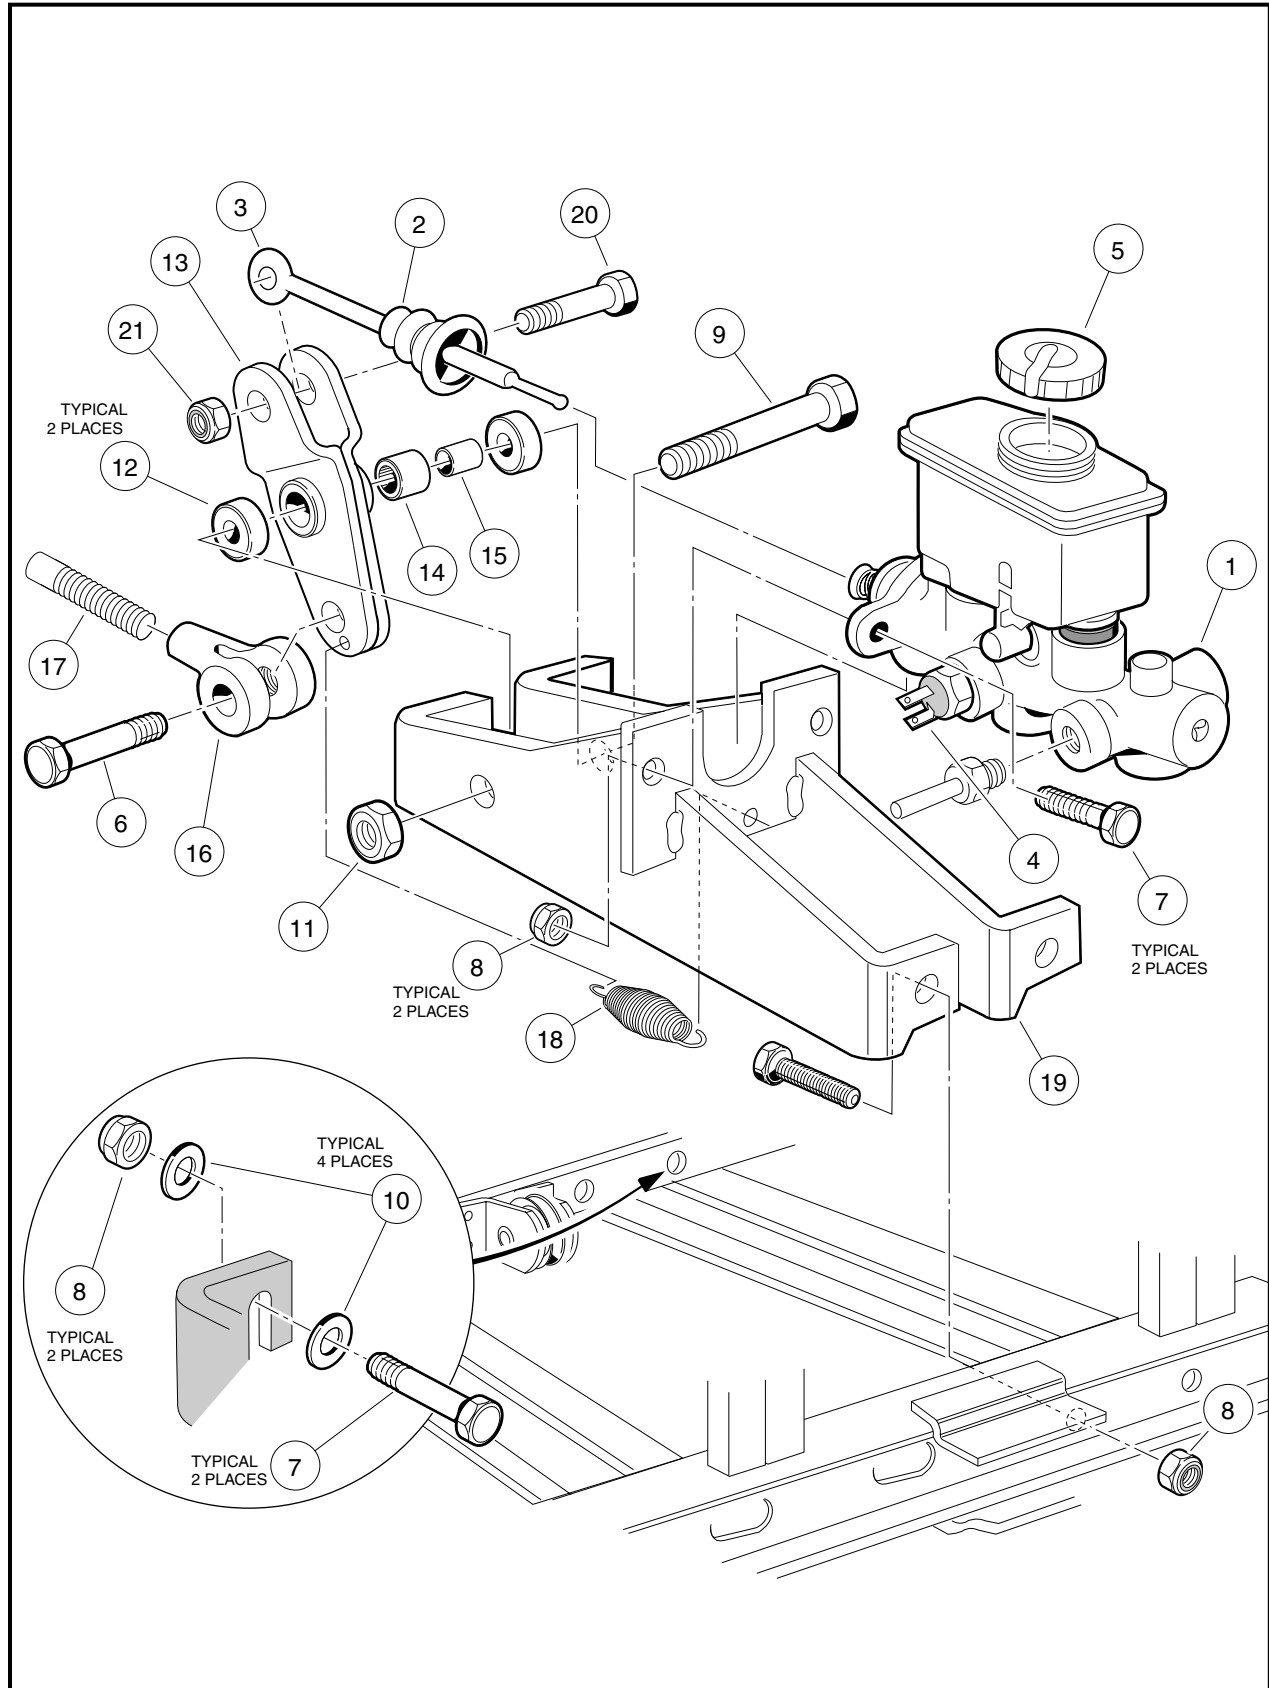

Figure 6a-23 Master Cylinder
5. Attach the two wires to the master cylinder pressure switch (no particular orientation) (4) (**Figure 6a-23, Page 6a-34**).
4. Remove each wheel and gently adjust the clearance between the brake shoes and brake drum by turning each of the two adjusters on the brake cluster as shown (**Figure 6a-16, Page 6a-19**). Use a torque wrench and a Torx #T-27 driver or hydraulic brake adjuster (CCI P/N 102169401). **See following CAUTION.**
- **Do not apply more than 65 in-lb (7.3 N-m) of torque to any of the adjuster bolts. Overtightening the adjuster bolts could result in damage to the brake cluster components or the separation of the bolt (4) from the adjuster (3) (Figure 6a-3, Page 6a-4 or Figure 6a-21, Page 6a-25).**
- **Front brakes only:** Connect the two hose fittings from a vacuum type brake bleeder to the brake bleeder valves on the back of each of the front wheel brake cluster assemblies (**Figure 6a-24, Page 6a-36**). Proceed to step 7.